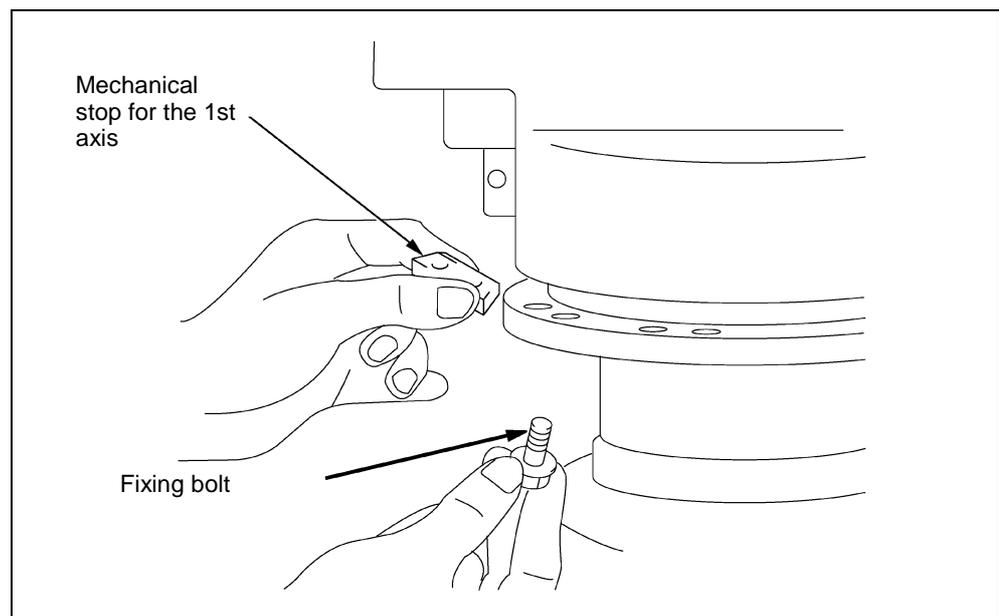

Figure 4-7 Mechanical Stop of the 1st Axis
- 2) If you want to change the current mechanical stop position, remove the fixing bolt from that mechanical stop and pull out the stop horizontally. (See Figure 4-7.)